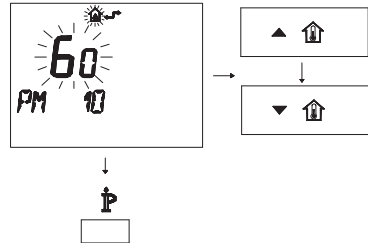

Fig. 7.43
- To modify the programmed SET, act on buttons **▲** or **▼** and wait for the number programmed to flash (Fig. 7.43).